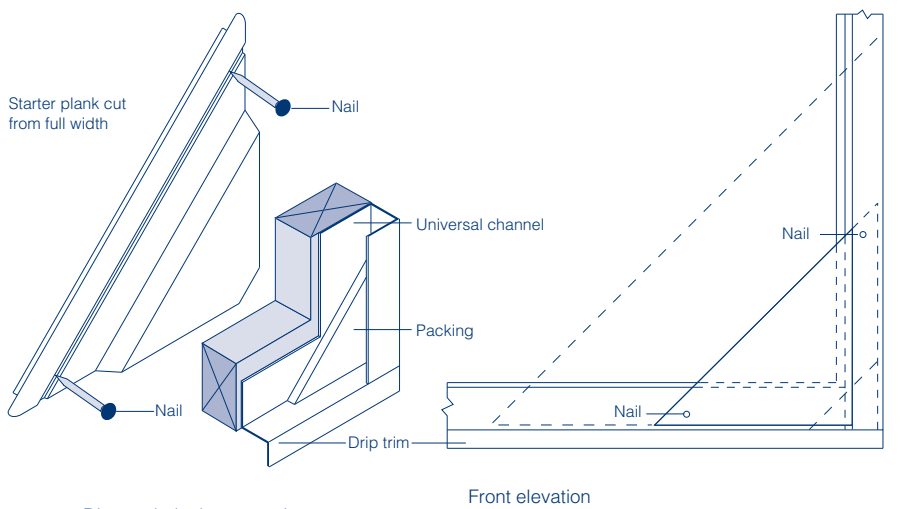

Fig.34 Diagonal plank starter piece Isometric view
- Starting from a bottom corner, the first cut piece is located into the angle formed by the starter trim and vertical edge trim, using a packing as necessary (Figure 34).